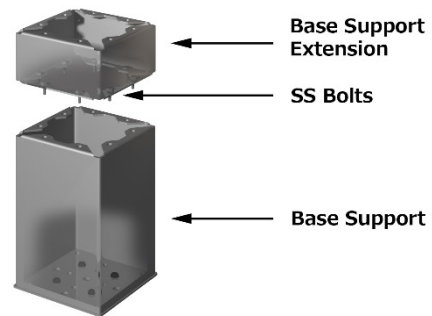

Figure 7
- **Taller Base Support:** Standard Base Support heights are 8", 10", 12" and 14". These heights will accommodate most conditions; however, we also offer custom-built heights if necessary. In the event that the Base Supports must be raised after they are installed, we offer 8" extensions that can be added in the field as illustrated in Figure 7.